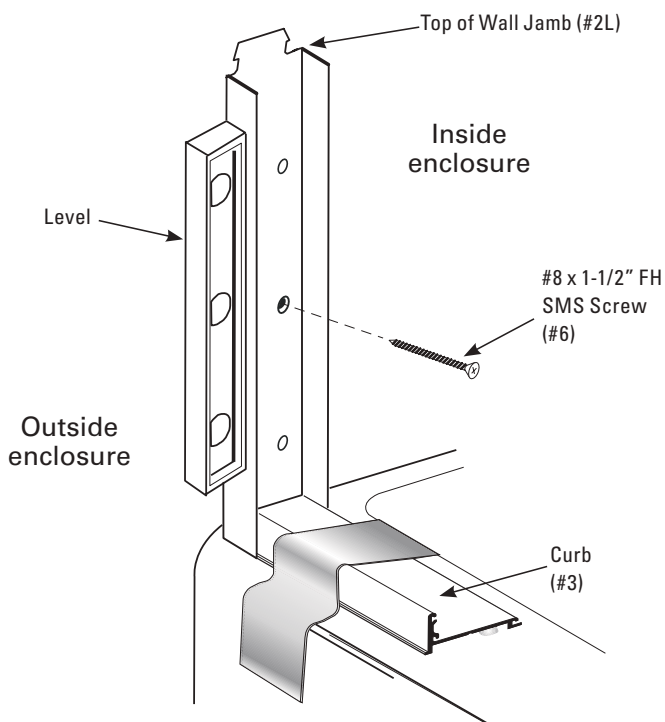

Figure 3
B. Place the left Wall Jamb against the left wall and slip the bottom of the Wall Jamb over the Curb. Use a level, held against the side of the Wall Jamb to align it vertically straight up and down as shown in **Figure 3**.